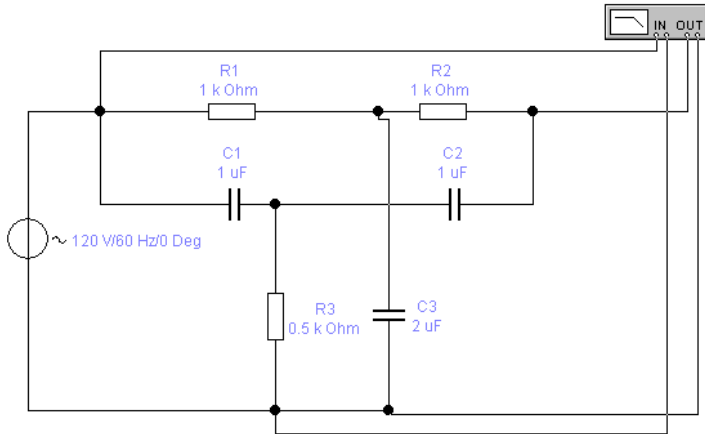

Figure 8.8 - Scheme of double T-shaped bridge
- 1 Draw a pattern of Fig. 8.8 and connect the Bode Plotter.